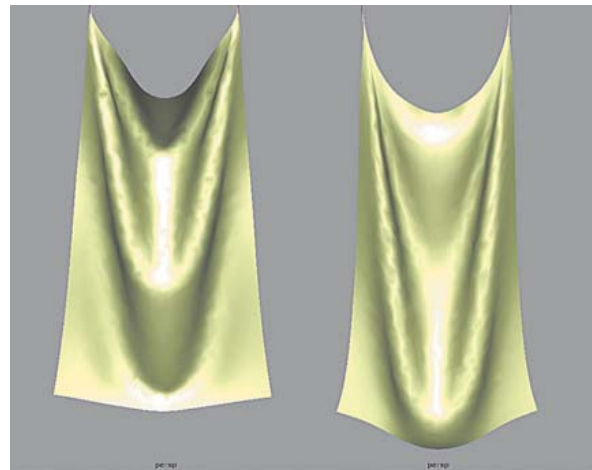

Figure 1.18: The same cloth simulated at a density of 0.01 on the left and 0.03 on the right.
3. Set **Density** to 0.03. By increasing the mass of the garment, density gives a greater feel of weight by carrying more momentum when it moves. The look of the folds are also affected (see Figure 1.18).